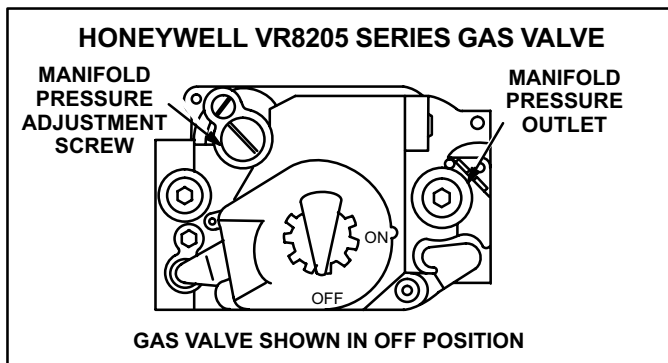

FIGURE 17
- 6 - *Honeywell VR8205 Gas Valve with On/Off Switch* - Move gas valve switch to **OFF position**. Do not force. See figure 17.
- 8 - *Honeywell VR8205 Gas Valve with On/Off Switch* - Move gas valve switch to **ON position**. Do not force. See figure 17.
- 4 - *Honeywell VR8205 Gas Valve with On/Off Switch* - Move gas valve switch to **OFF position**. Do not force. See figure 17.